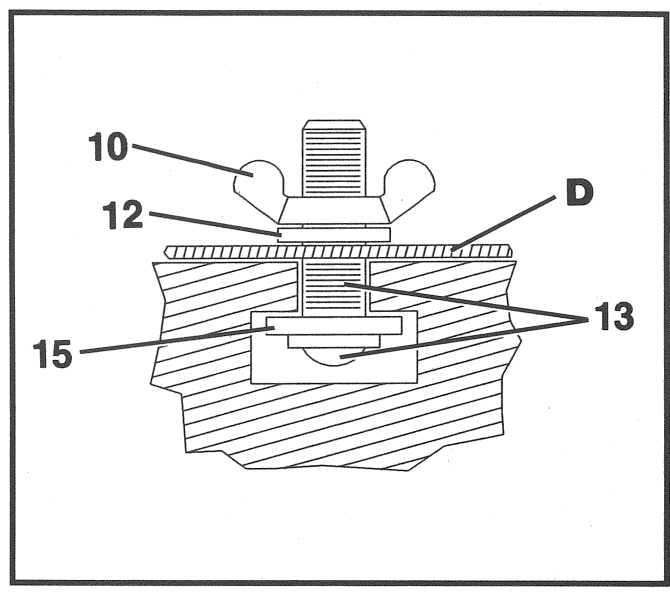

Fig. 20
4. When fastening the base to drill press tables with T-slotted grooves, line-up at least two of the slots in the sander base with the T-slots in the drill press table making sure the opening in the sander table is in line with the drill press chuck. Then fasten the sander base to the drill press table using reference numbers (10), (12), (13) and (15) shown in Fig. 2. Figure 20 illustrates reference numbers (13) and (15) upside down in the slot of the drill press table. The base of the oscillating spindle sander is shown at (D) Fig. 20, and the washer and wing nut is shown at (12) and (10) Fig. 20.